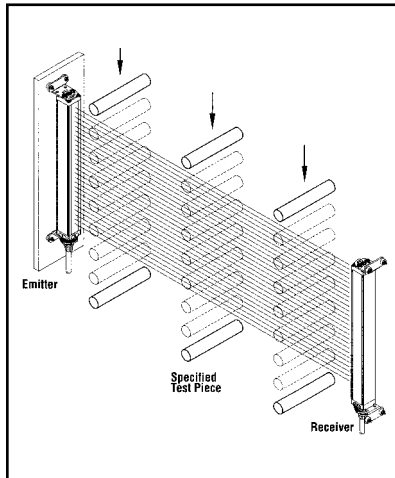

Figure 30. Use of test piece for trip test
- b) With the guarded machine at rest, pass the appropriate *specified test piece* downward through the defined area in three paths, perpendicular to the defined area: close to the receiver, close to the emitter, and midway between the emitter and receiver (see Figure 30). In each case, the red indicator must come ON and remain ON while the test piece is within the defined area. When the test piece is removed from the defined area, the green status indicator should come ON (or be flashing, if blanking is ON). If the green status indicator comes ON at any time when the test piece is within the defined area, check for reflective surfaces, or unguarded areas created by the use of fixed blanking (see Warnings, page 49). **Do not continue until the situation is corrected.** (See Section 3.2.2 and 3.2.4). For controller MDSINT-1T2, perform a Key Reset to reset the latch after each pass of the test piece.